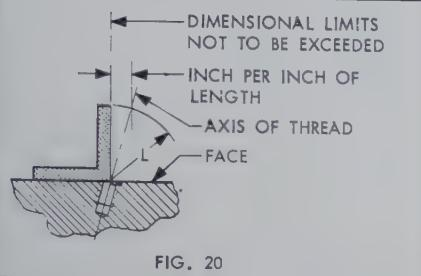

FIG. 20
**Squareness — Threads:** The axis of threads must be square with the face within .005 per inch of length ( $L$ ) starting with a minimum of .005. See Fig. 20.